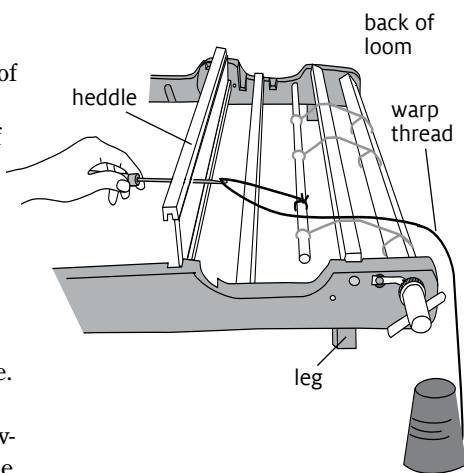
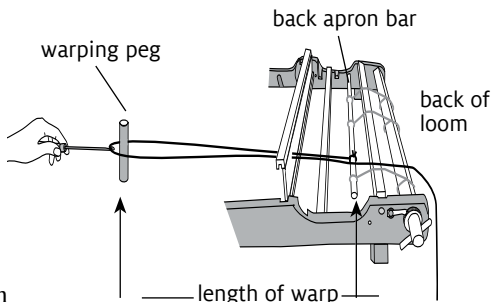

FIGURE 5: PULL THE WARP THROUGH THE HEDDLE
FIGURE 6: PLACE THE WARP LOOP ON THE PEG
2. Insert the metal part of the clamps into the holes in the legs (figure 5) and clamp the loom to a table (the loom will hang over the edge of the table). The back of the loom is the end with the heddle block (figure 1).
Clamp the warping peg as far away from the back apron rod as you want your warp to be long (figure 6).
3. Place your ball or cone of yarn on the floor below the back beam of your loom (figure 5). Place the heddle in the slot labelled “1st heddle neutral” in figure 1.
5. Using the heddle hook, pull a loop of yarn *over* the apron bar and through a slot in the heddle (figure 5). Place the loop of yarn on the warping peg (figure 6). You now have two warp ends going through a single slot.